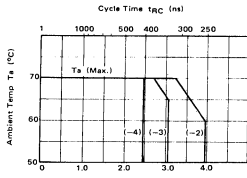

Fig. 1  $T_a$  vs  $t_{RC}$
- $T_a$  is specified here for operation at frequencies to  $t_{RC} \geq t_{RC}(\text{min.})$ . Operation at higher cycle rates with reduced ambient temperatures and higher power dissipation is permissible, however, provided AC operating parameters are met. See Fig. 1 for derating curve.
It is possible to operate certain versions of the TMM416P family (-2 and 3 speed selections for example) at frequencies higher than specified, provided all AC operating parameters are met. Operation at shorter cycle times (< tRC min.) results in higher power dissipation and, therefore, a reduction in ambient temperature is required. Refer to Fig. 1 for derating curve.